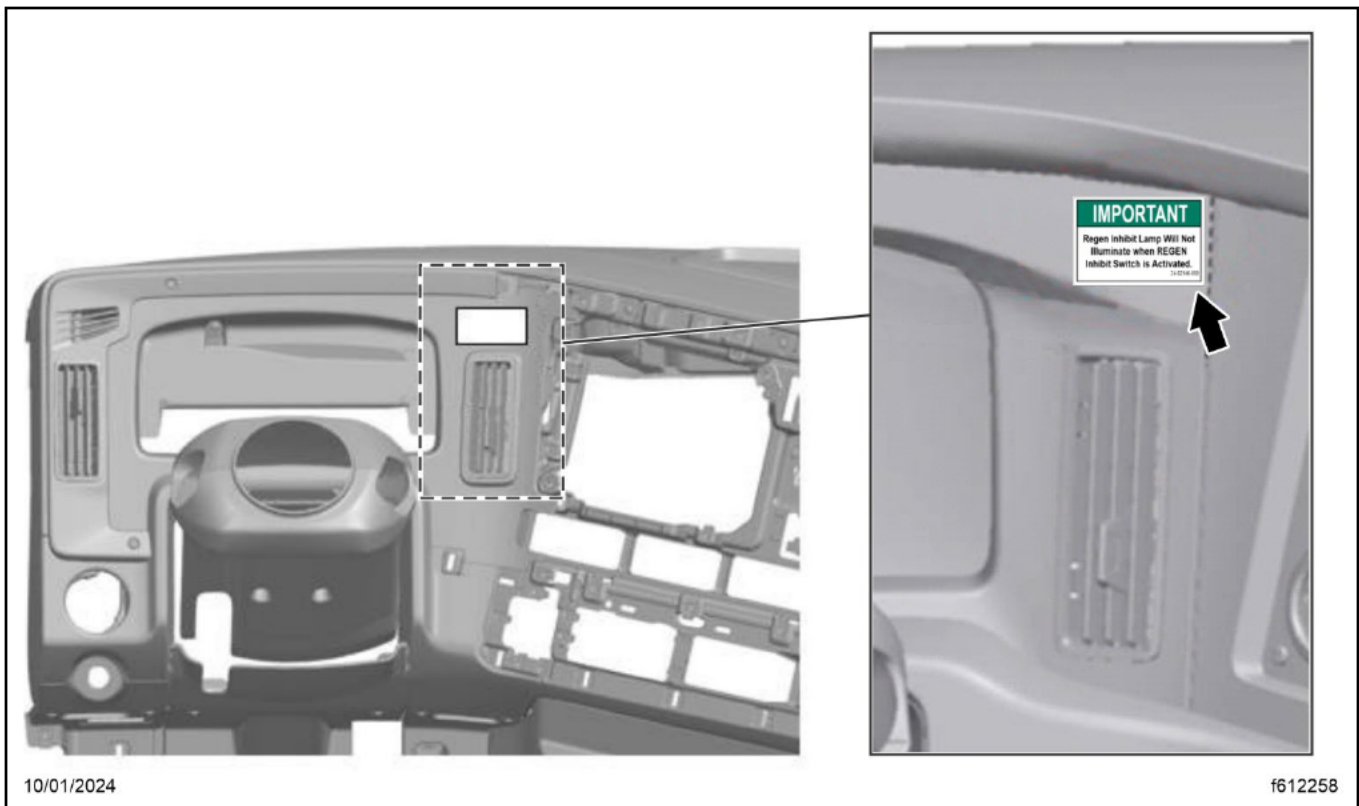

Fig. 15, Regen Inhibit Dash Warning Label to be Removed
21. Locate and remove the dash label. See Fig. 15.